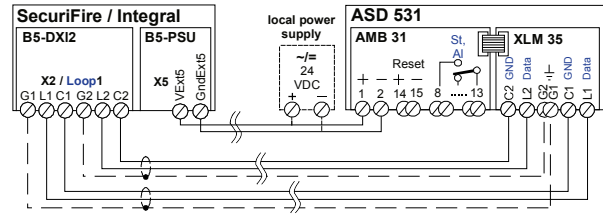

Fig. 39 Connection from XLM 35
- The connection and line routing between **XLM 35** and the SecuriFire and Integral FACP is to be carried out in accordance with Fig. 39 (L1 to L1, C1 to C1 etc.).